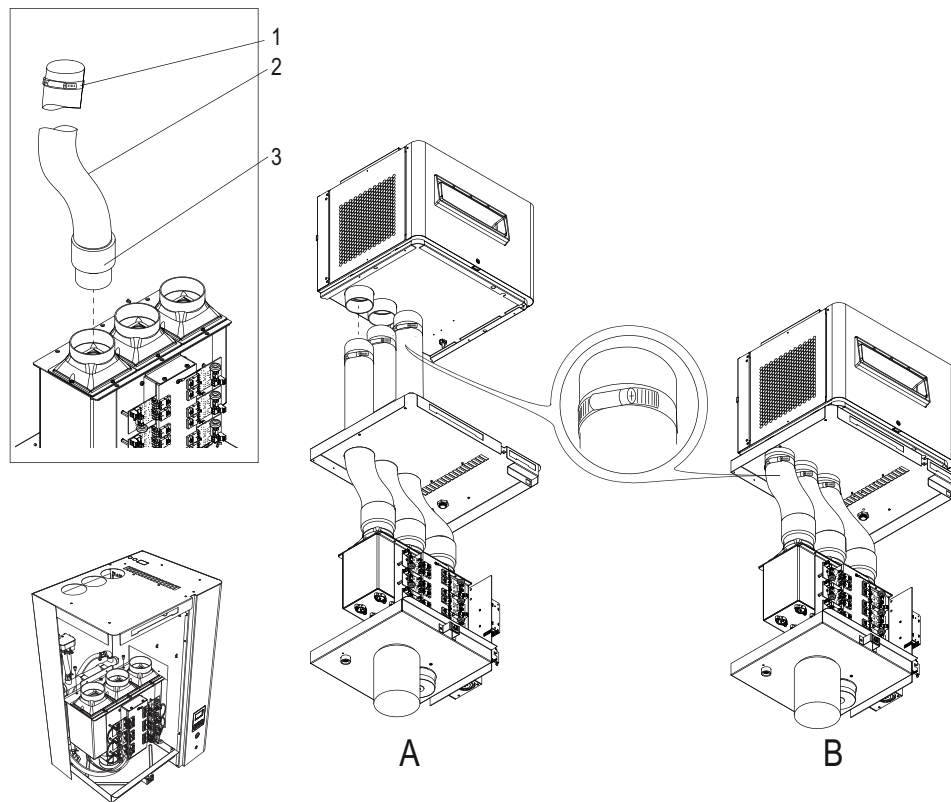

Figure 12 - Flexible Tubes. (A) Remote-Mount Installation. (B) Direct-Mount Installation.
3. Route the 'connector' end (item 3) of the flexible tube to the top of the water reservoir. Secure the connection by gently inserting the connector and tube into the reservoir, as seen in Figure 12 - below.